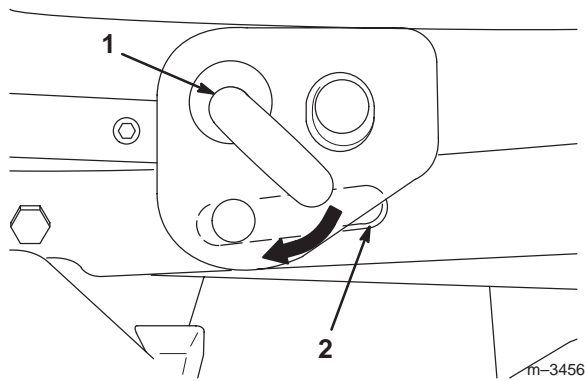

Figure 10
4. Lower the attachment lift arm fully and adjust the mower position until you can pull out on the J-pin of the lift arm and slide it into the slot in the mounting bracket of the mower (Fig. 10).